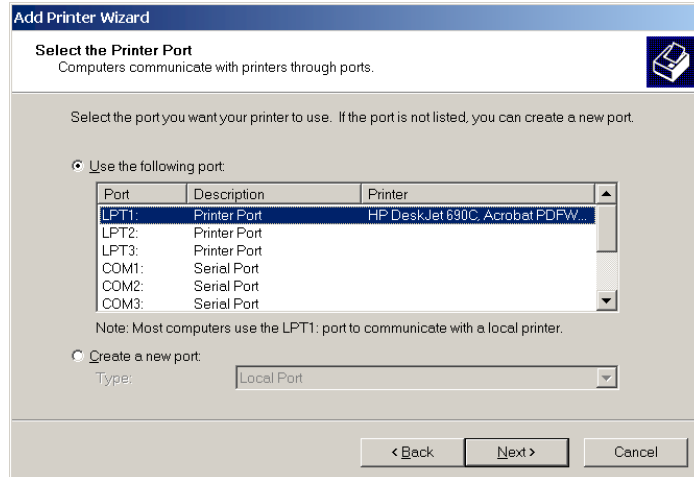

Figure 9, Printer Port
- The third page of the “**ADD PRINTER WIZARD**” will be displayed as shown in Figure 9. Click on “**Use the following port**”. Next, scroll down through the list of available ports until “**USB001**” is highlighted. Then click on **<NEXT>** to continue